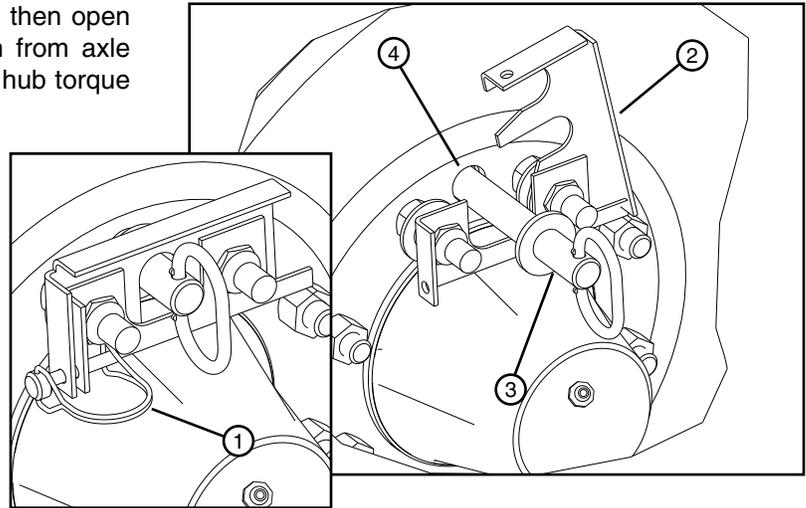

Figure 63-1 1. Lynch Pin 2. Retainer Clip 3. Torque Pin 4. Hub Torque Pin Receiver
5. Remove lynch pin from retainer clip, then open retainer clip and pull the torque pin from axle torque arm behind gearbox hub and hub torque pin receiver. See Figure 63-1.